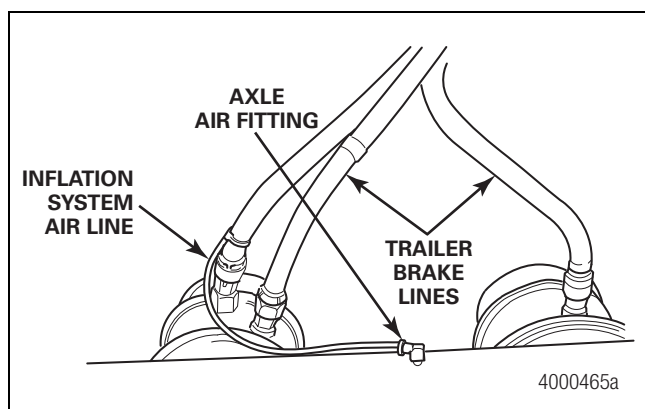

Figure 2.62
3. Route the air lines from the tee to the axle air fittings. Provide sufficient slack in the lines to allow for suspension movement. Use the slack in the existing trailer brake lines as a guide. Figure 2.62. Hand-tighten the air line fittings, then use a 9/16-inch wrench to tighten them approximately one additional turn to obtain an airtight seal.